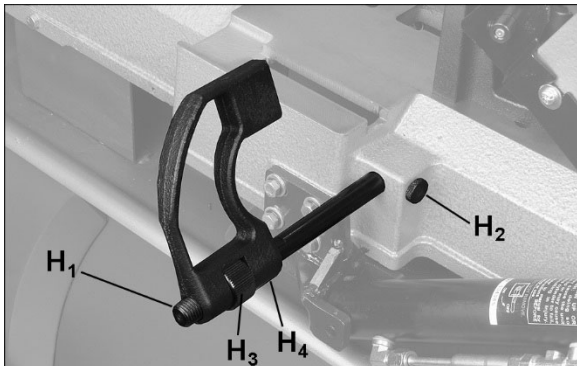

Figure 6-6: installing work stop (712DV only)
- 712DV only:** Install work stop rod (H₁, Figure 6-6) into hole and tighten knurled nut (H₂). Install work stop onto rod threads by rotating collar (H₃). Secure position of work stop by tightening set screw (H₄) onto rod flat.